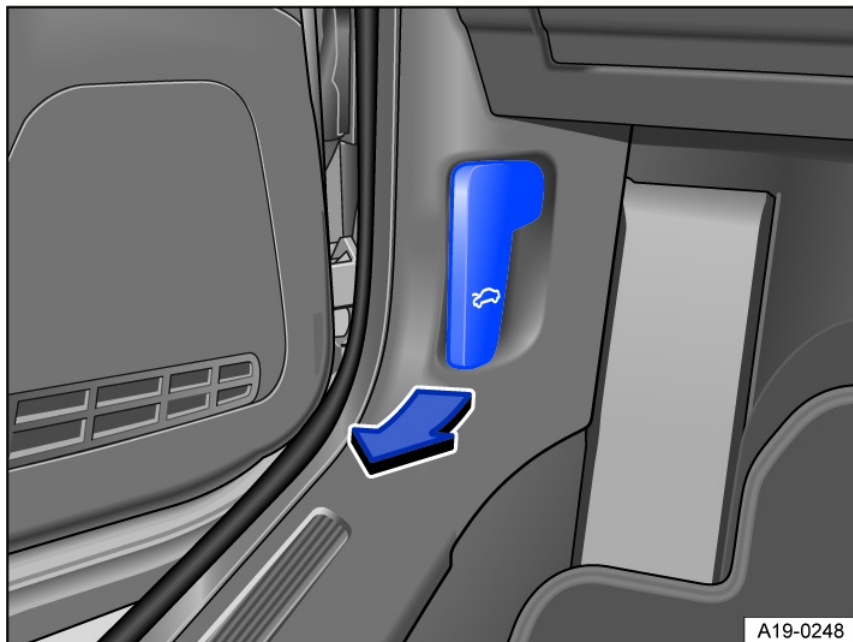

Fig. 193 In the driver's side footwell: Release lever for the hood (general example).
- Open the driver's door and pull the release lever in the direction of the arrow fig. 193. The hood will pop open from the locking mechanism in the lock carrier .